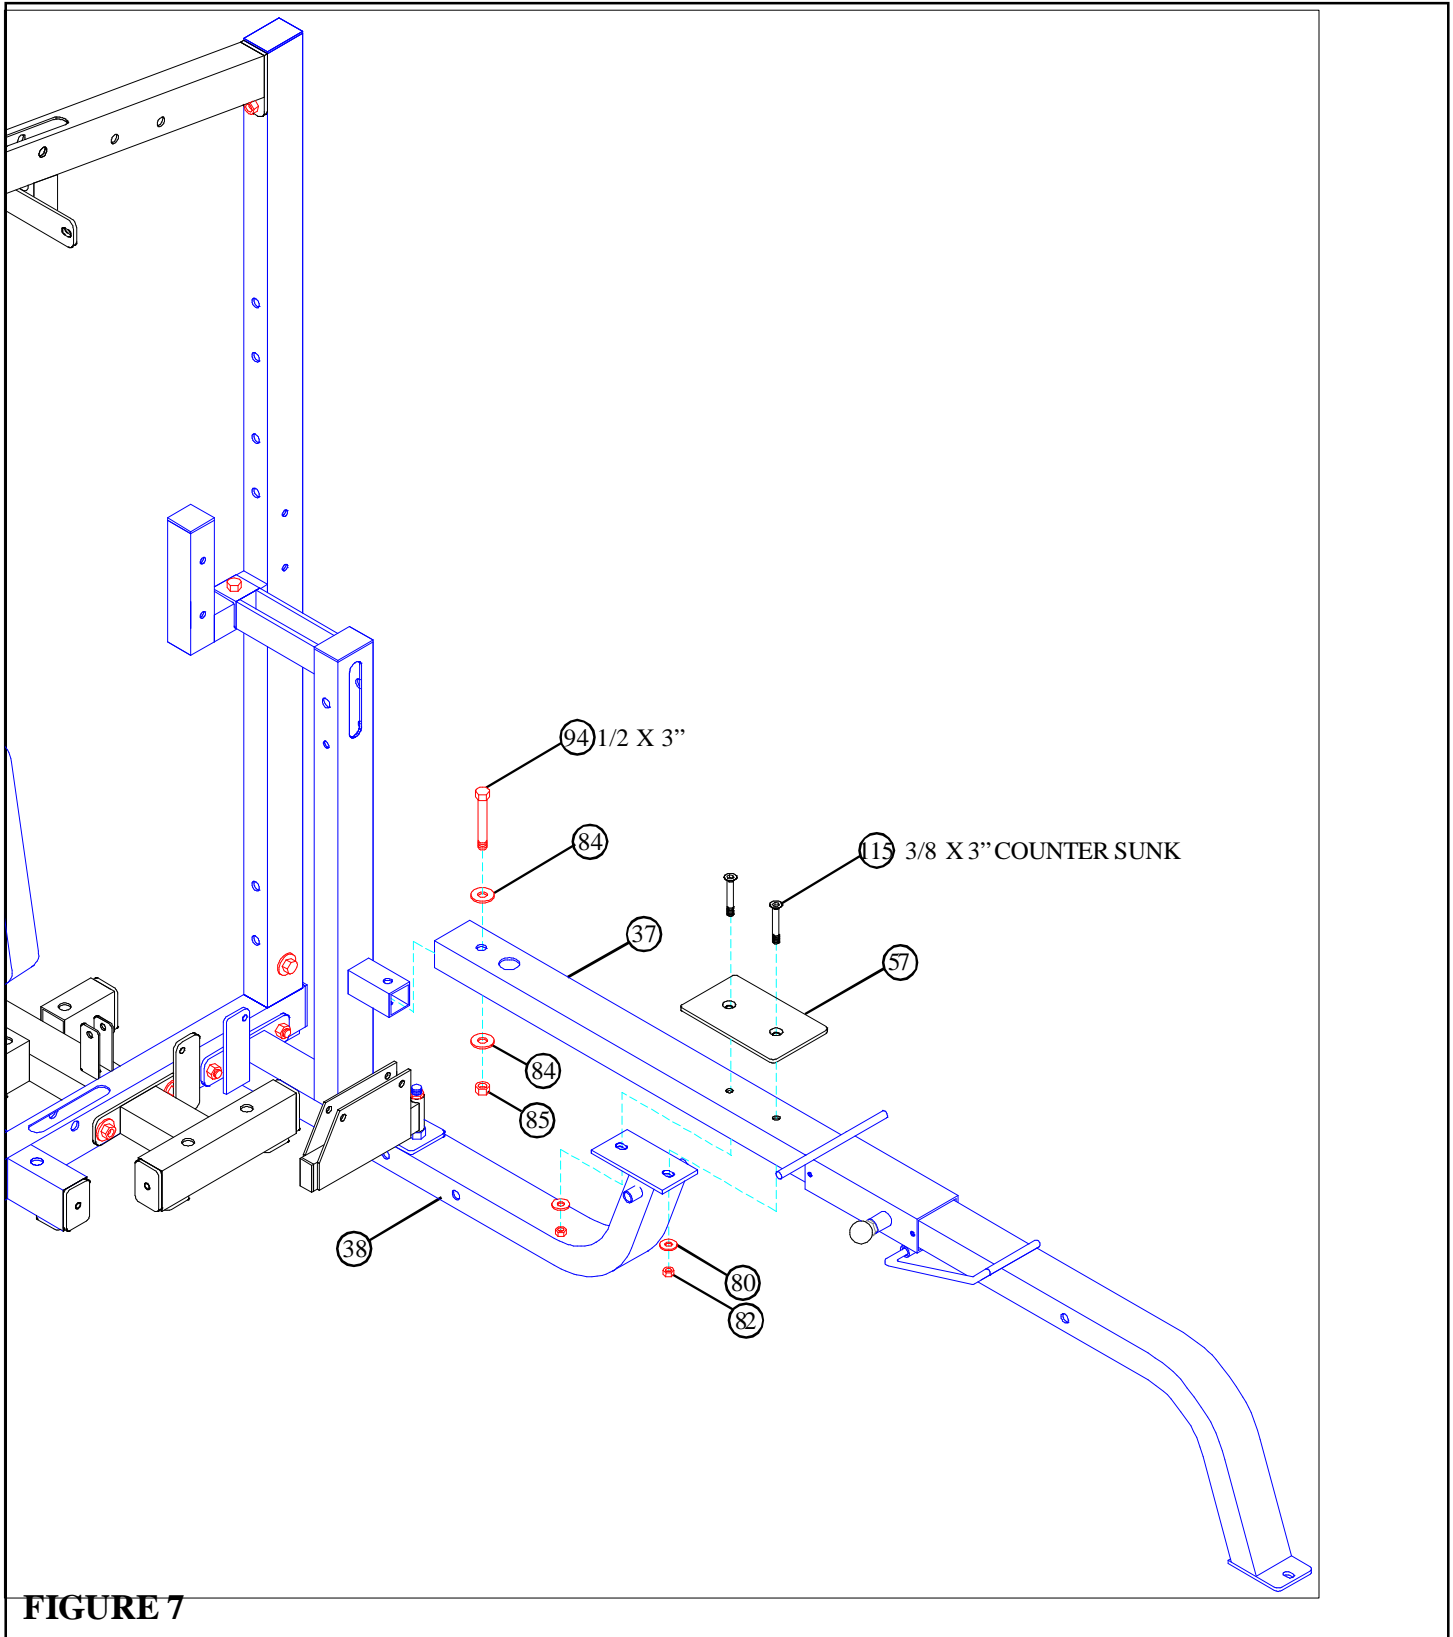

**FIGURE 6**
- **SECURELY** assemble the PRESS BASE (38) to the BASE (25) using two 1/2 X 3" BOLTS (94), two 1/2" WASHERS (84), and two 1/2" LOCK NUTS (85), and to the REAR UPRIGHT (1) using one 1/2 X 3" BOLT (94), one 1/2" WASHER (84), and one 1/2" LOCK NUT (85) as shown in FIGURE 6.
- Assemble the SWIVEL PULLEY BRACKET (35) to the PRESS BASE (38) using one 1/2" LOW HEIGHT LOCK NUT (86) as shown in FIGURE 6. (NOTE: Securely tighten, then back nut off 1/4 turn to allow the SWIVEL PULLEY BRACKET to rotate freely.)